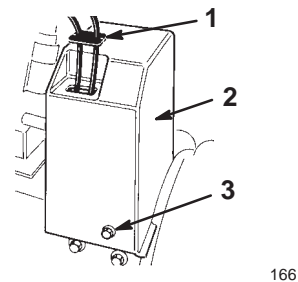

Figure 5
16. Slide the cable cover onto the cables and into the hole in the belt cover (Fig. 5).